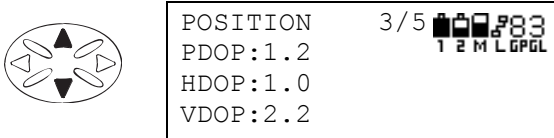

Figure 3-66. DOP
- the position's DOP (dilution of precision) (Figure 3-66):